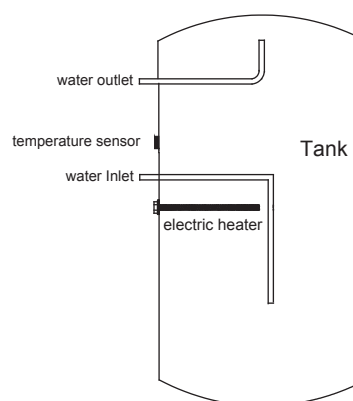

Fig.8.1
- Two heating parts are included in the unit, one heat pump and one electric heater, which is installed in the middle. All the heating parts do not work together. This unit has one temperature sensor, which is installed at the upper of the electric heater. see Fig.8.1